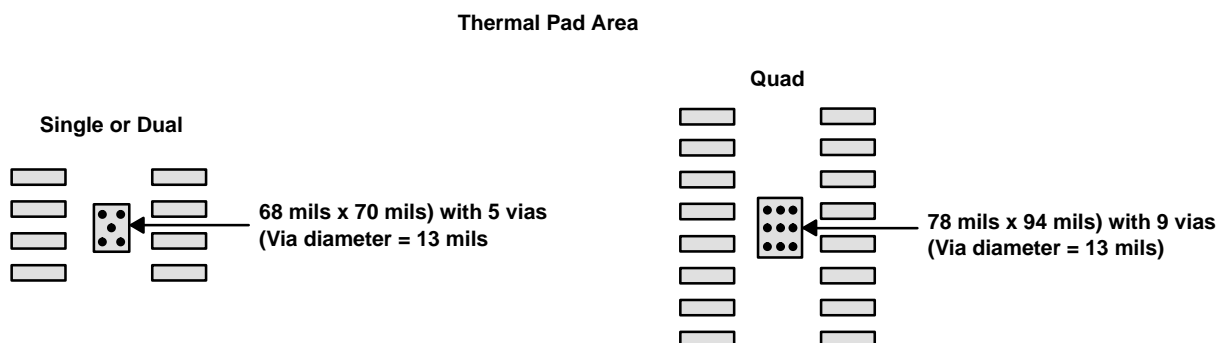

Figure 47. PowerPAD PCB Etch and Via Pattern
1. Prepare the PCB with a top side etch pattern as shown in Figure 47. There should be etch for the leads as well as etch for the thermal pad.